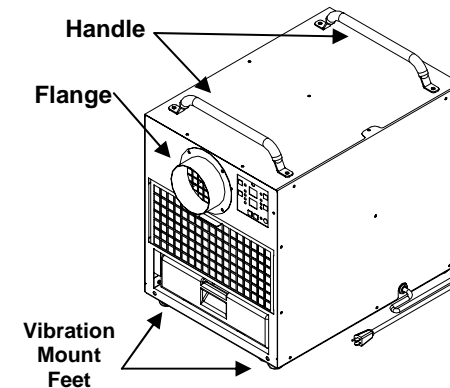

Figure 2
- Feet Kit (Figure 2)
- Six-Inch Flange Kit (Figure 2)